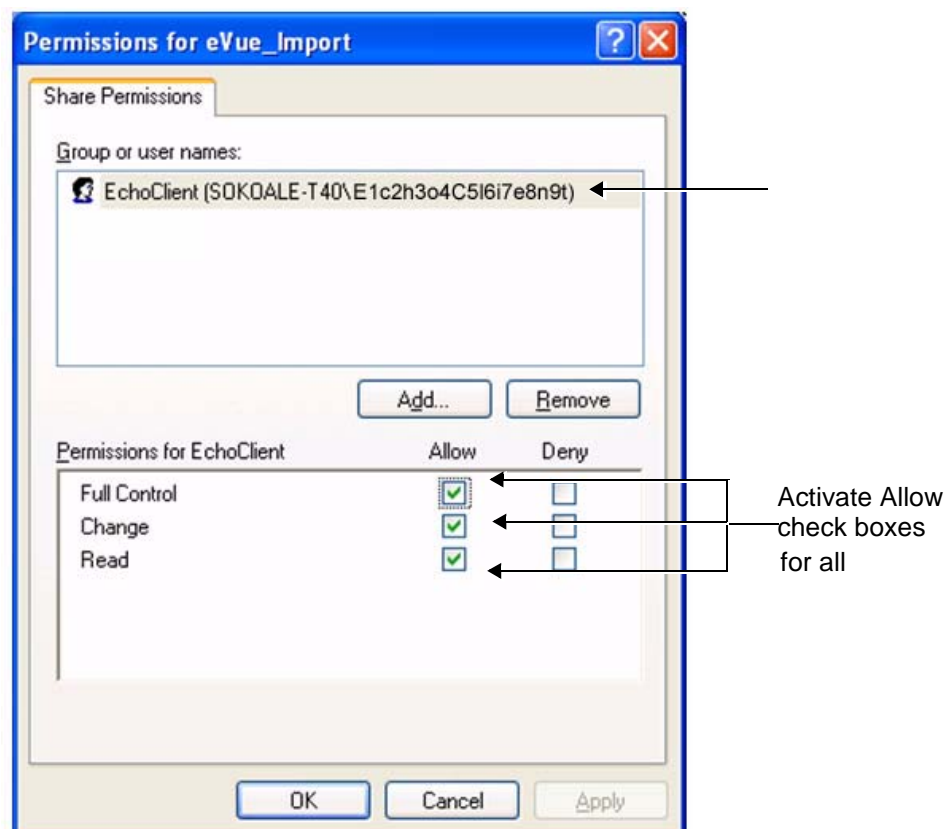

Figure 3-107 Setting Permissions for E1c2h3o4C5I6i7e8n9t
l.) From the Permission for eVue_Import dialog box, highlight and select **E1c2h3o4C5I6i7e8n9t** from the list (see Figure 3-107).